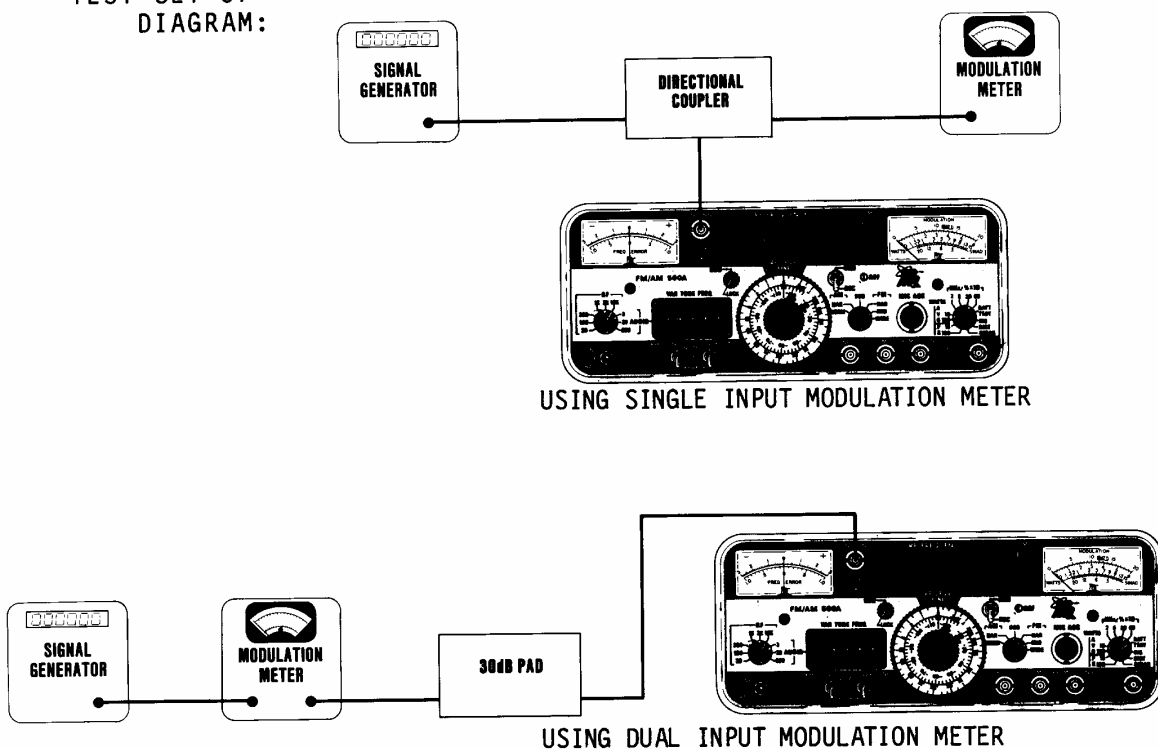

Figure 4-2 Modulation Meter Calibration Set-Up
1. Connect Test Equipment as follows (see Figure 4-2):
- a. For single input Modulation Meter, connect both, Modulation Meter and Signal Generator to Directional Coupler and connect Directional Coupler to ANTENNA Jack (23) on Front Panel.
- b. For dual input Modulation Meter, connect Modulation Meter to Signal Generator and to 30 dB Pad. Connect 30 dB pad to ANTENNA Jack (23) on Front Panel.
2. Set Power Switch (17) in "LINE" position. Allow a 5 minute warm-up period.
3. Adjust R3368 as necessary until MODULATION Meter (1) indicates 0 (± 0.1).
5. Set GEN/REC Mode Switch (26) in "REC" position.